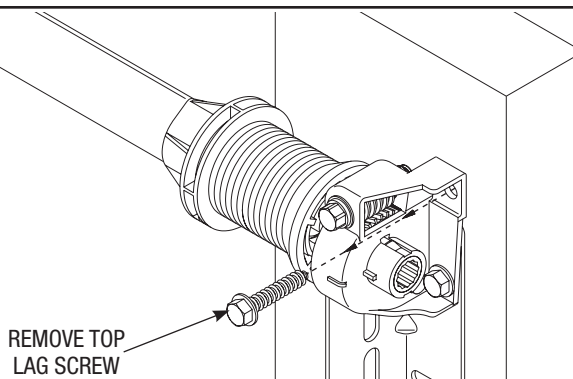
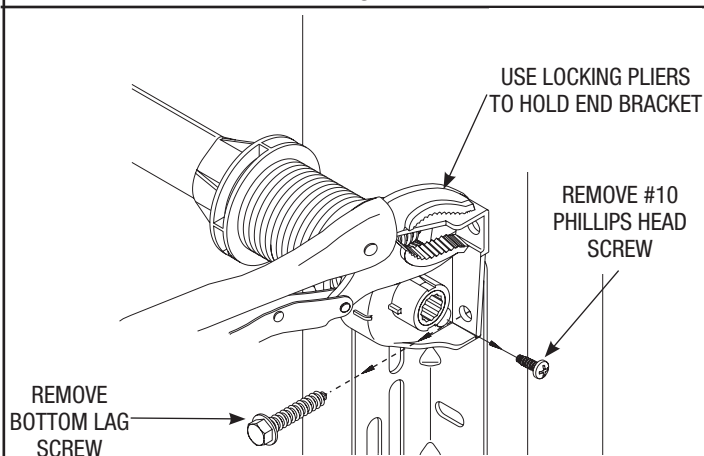

Fig. 5
Fig. 6
Step 5: Remove the upper 5/16" x 1-5/8" lag screw from the right hand end bracket (Fig. 5). Attach locking pliers to the upper portion of the end bracket and hold the housing steady while removing the lower 5/16" x 1-5/8" lag screw and #10 x 1/2" phillips head screw from the end bracket (Fig. 6).